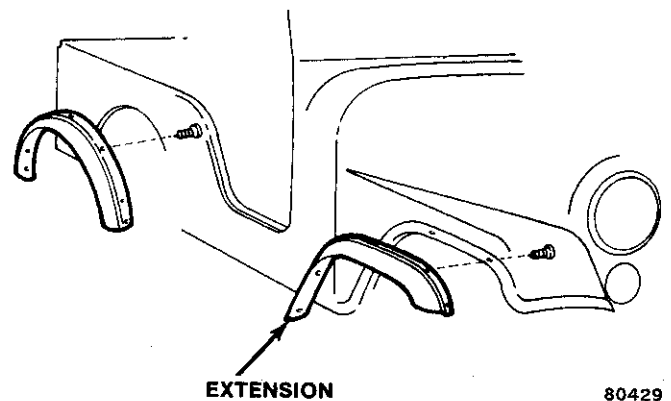

Fig. 3F-14 Fender Extension—CJ Models
- (1) Remove screws attaching fender extension to fender (fig. 3F-14).
- (2) Remove extension from fender.